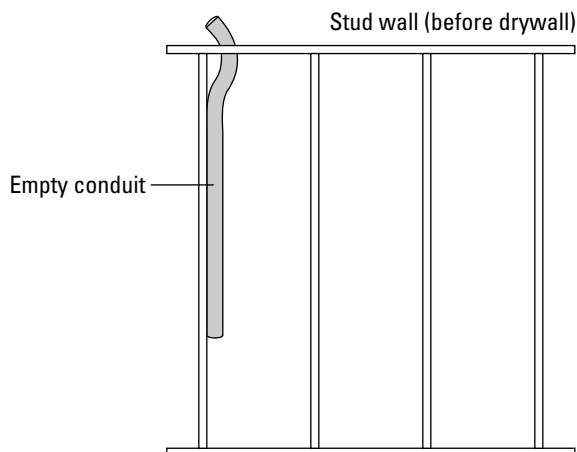

Figure 2-2:
- ✔ **Run conduits:** Think about access and flexibility for future growth when you run your wires. You never know when you're going to have to run more cable for some reason or another. Run PVC conduits between floors and in the walls, instead of just running wire, so you can add more cable in the future if you need to. Be cognizant of elbows in these PVC runs — cable, especially thicker cable, does not travel well around corners. Figure 2-2 shows how this might work. Leave pull cords in the conduit. (*Pull cords* are cords that you use to pull cables through that conduit.) Also be careful about what you run in the same conduit — some signals running inside cables can interfere with each other. Never run electrical wiring inside these PVC conduits no matter how much money it saves you.